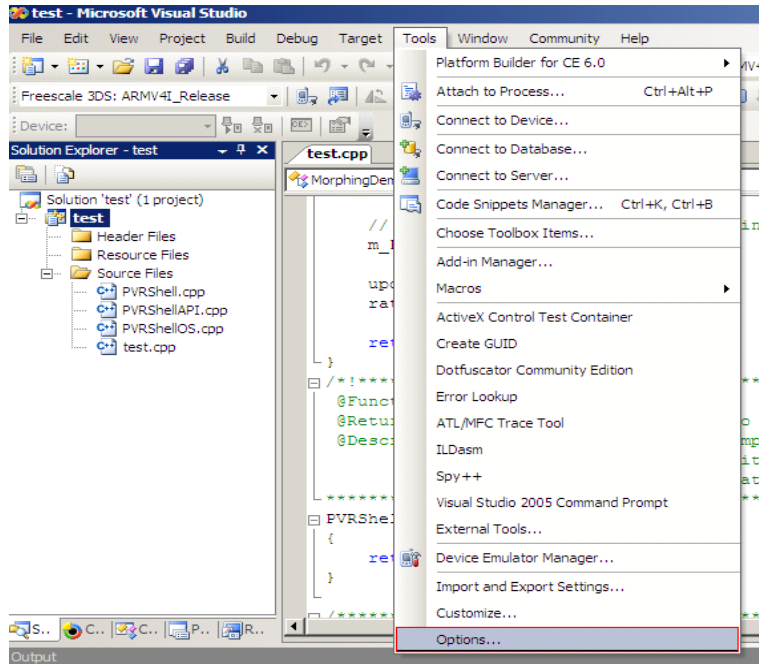

Figure 11. Microsoft Visual Studio Window
1. Go to Tools > Options, as shown in Figure 11.